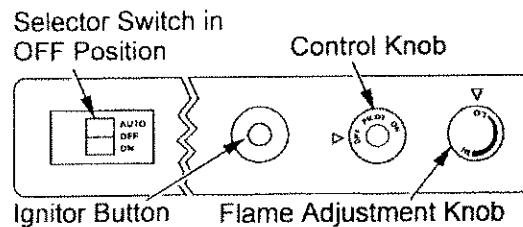
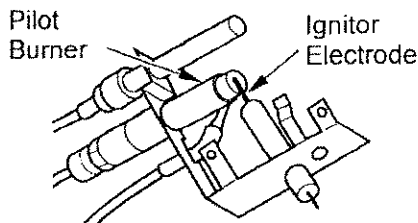

Figure 36 - Control Knob and Ignitor Button Location (Shown as Supplied - No Control Options)
Figure 37 - Propane/LP Gas Pilot
- Press in and turn control knob clockwise  to the OFF position (see Figure 37).
- Wait five (5) minutes to clear out any gas. Then smell for gas, including near the floor. If you smell gas, **STOP!** Follow "B" in the safety information, column 1. If you don't smell gas, go to the next step.
- Press in and turn control knob counter-clockwise  to the PILOT position. Press in control knob for five (5) seconds (see Figure 36).